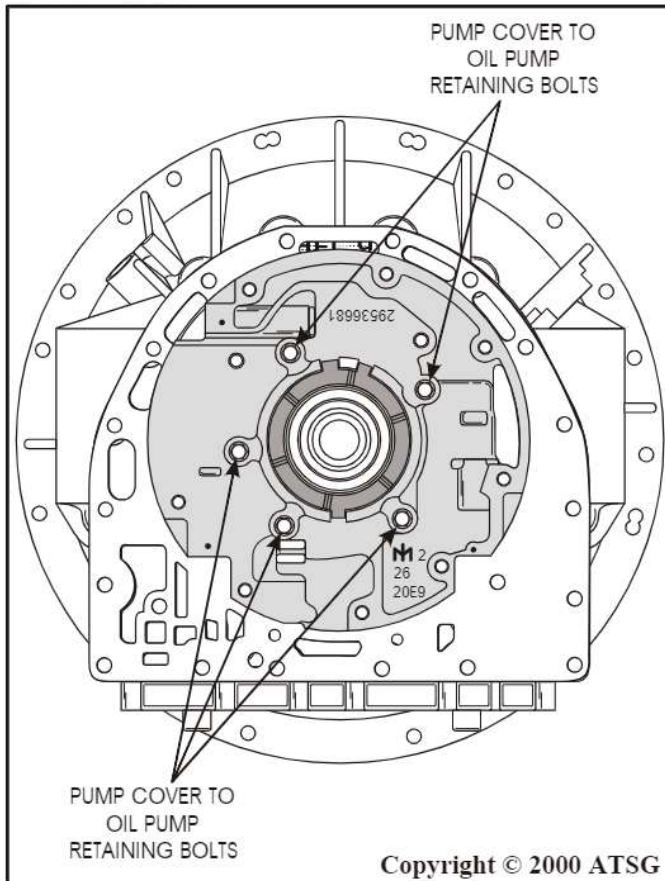
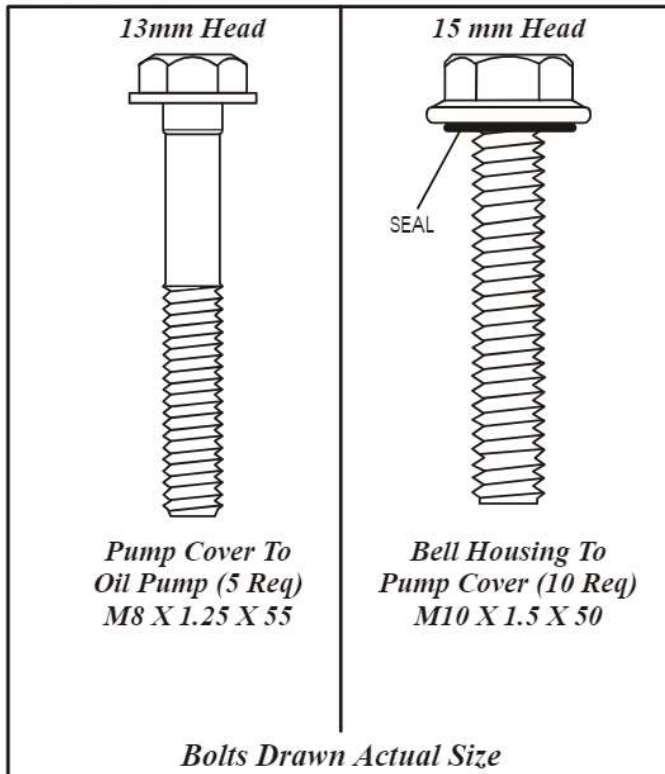
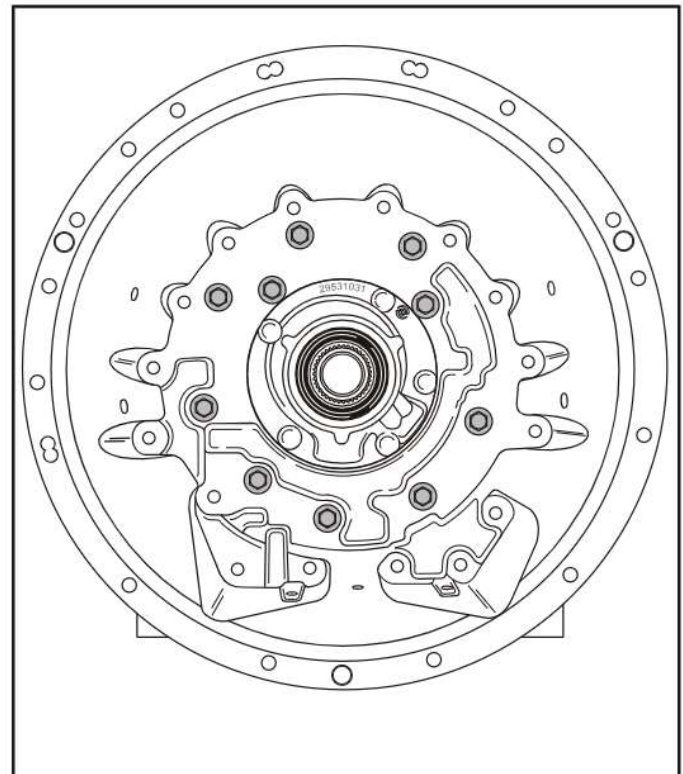

Figure 93
Figure 95
Figure 96
25. Install the 5 required pump cover to oil pump bolts, size identified in Figure 95 and location is identified in Figure 93, and torque the bolts to 27 Nm (20 ft.lb.).
27. Install the 10 required bell housing to pump cover bolts, size identified in Figure 95 and location is identified in Figure 96, and torque the bolts to 43 Nm (32 ft.lb.).
Note: *Notice in Figure 95 that these 10 bolts have a required seal on the bolt. Ensure that new seals are installed.*